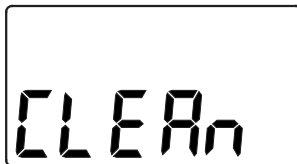

FIG. 17
- **Light flashing, with "CLEAN" flashing in the display** (See Fig. 17) - Four months have elapsed on the system's timer since start up or the last reset.